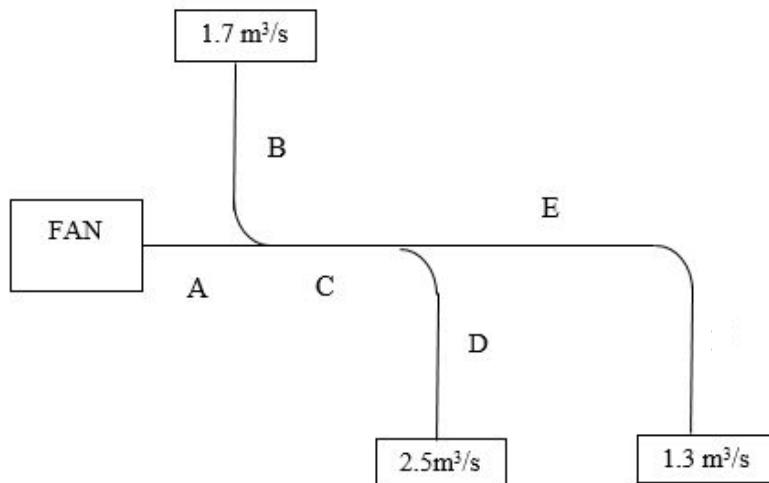

Figure A2/ Rajah A2
- CLO2 (b) Figure A2 shows the supply air duct system for a space. Based on chart 4.33 (Appendix 1), by using equal friction method, determine the duct size for duct section A, B, D and E. Assume the air velocity at duct AB is 7 m/s.